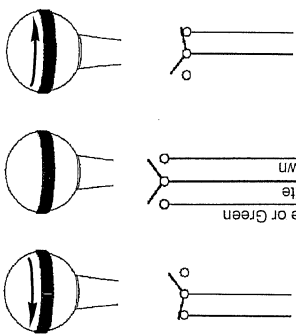

Fig. 5
Fig. 5 describes the functions of the switch and electrical connection.
**WARNING!** Always install a "main switch" A Fig. 5 (not included) to prevent unintentional use of the switch in the lever (CH2800).